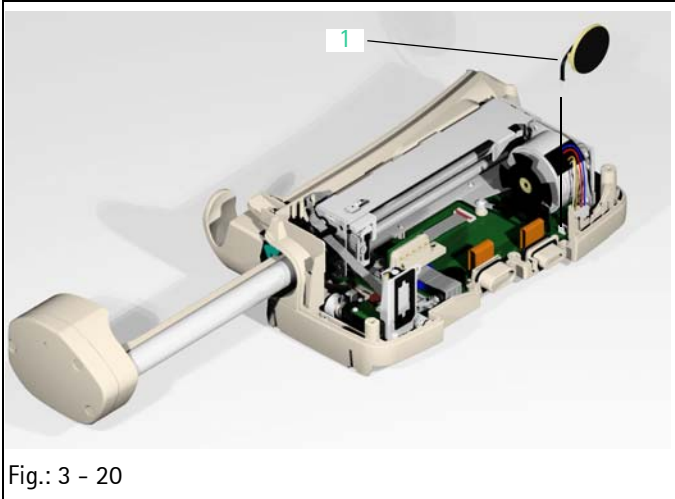

Fig.: 3 - 20
1. Pull the release button (Fig.: 3 - 19 / Item 1) out of the housing bottom part.
Legend of fig. 3 - 20: